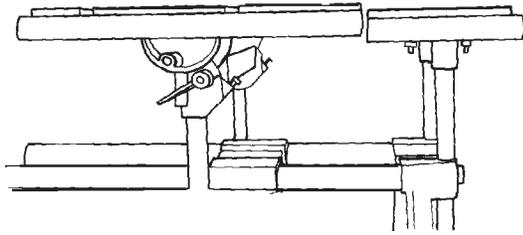

Figure B-100
- 79. The worktable should already be mounted in the carriage mount. Move the worktable next to the extension table and adjust it to about 1/4" above the extension table, as seen in Figure B-100.